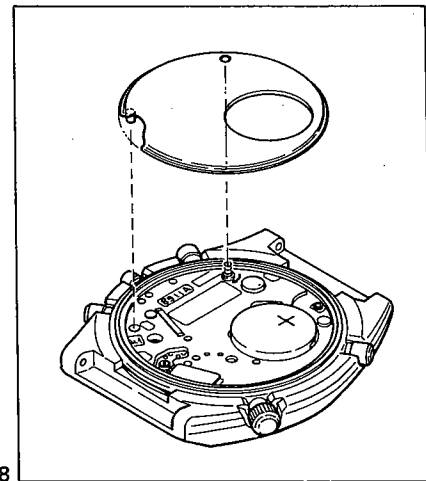

Fig. 8
① How to incorporate vibrating plate
- b. As illustrated in Fig. 8, the vibrating plate cover is set in with the lower projection to be put into the hole of the device cover and centering on both the power cell and the buzzer contact spring.